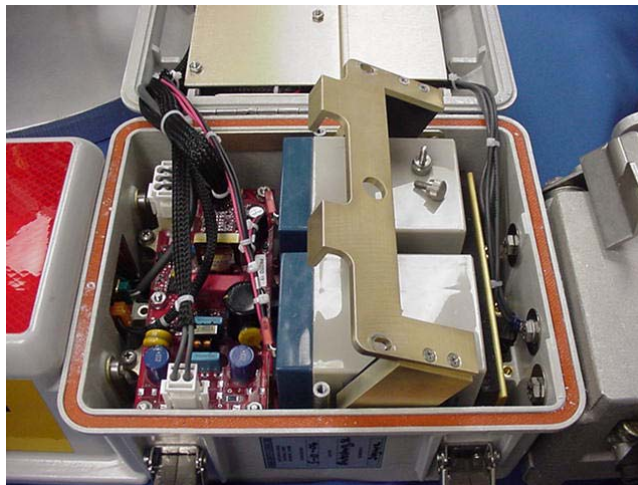

Figure 7
5. Remove HOLD DOWN Assembly from batteries. See Figure 7.
6. Remove SUPPORT PAD from between batteries. See Figure 7.
7. Disconnect BLACK lead, ¼-Stackon from each the left Battery #1 position and the right Battery #2 position. See Figure 7.
14. Install SUPPORT PAD between batteries. See Figure 7.
15. Install HOLD DOWN Assembly to capture batteries. See Figure 7.